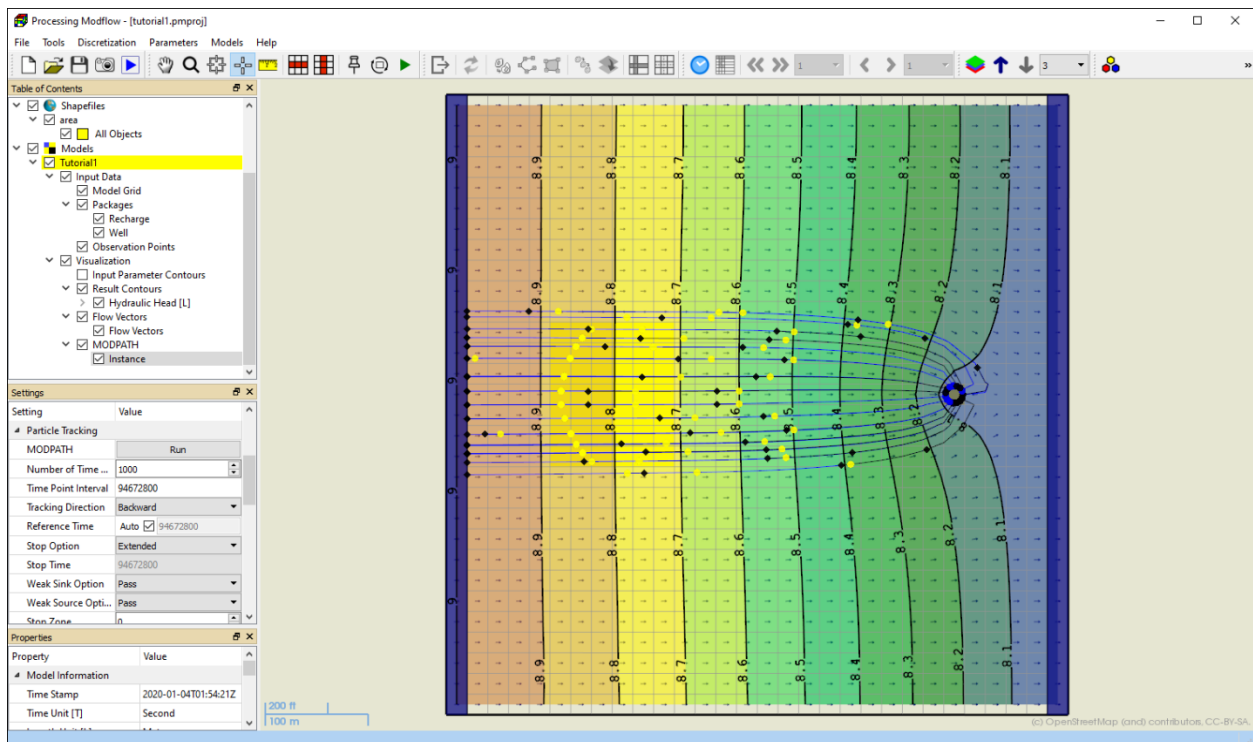

Figure 13. Projection of pathlines on the Map Viewer (backward tracking)
- Once the simulation is finished, PM will display the (projection of) pathlines on the Map Viewer (Figure 13). The black dots are the end points of pathlines. The yellow dots along pathlines are particle tracking time points with the interval defined in the settings window.